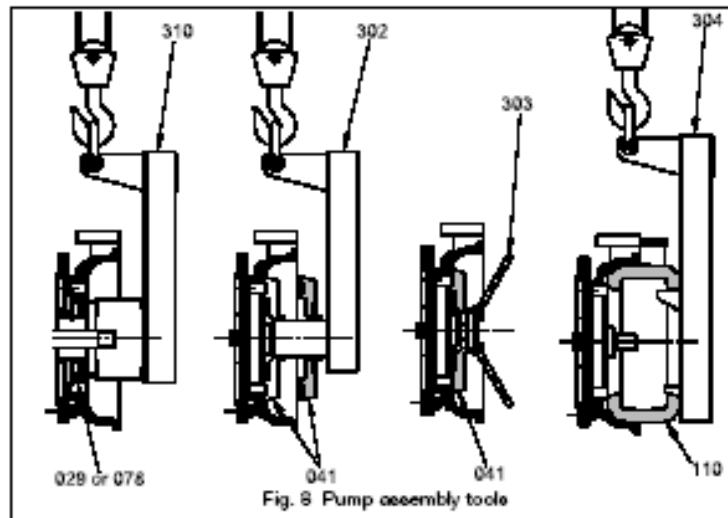

Figure 8-Wet End Assembly Tools
Refer Figs 8 and 9
- c. Restrain Shaft with wrench, and fit Locking Nut on Shaft thread, as shown in Fig 8. Move the Frame Plate Liner so that its inner diameter is approximately concentric with the tapered surface of the Locating Nut. Tighten all Studs on the Frame Plate Liner finger tight plus half a turn (max), and then remove the Locating Nut.
Refer to Figs 8 and 10
- b. Suspend a Lifting Tube - special tool which can be made on site or provided by ICS - from a hoist (refer Fig 8). Stand the Frame Plate Liner Insert on its edge, being careful not to damage the mating face, then slide the Lifting Tube into the bore of the Frame Plate Liner Insert. Lift the Tube with Insert attached, and slide the tube over shaft thread. Rotate the Frame Plate Liner Insert until the Studs line up with the holes in the Frame Plate, then slide the Frame Plate Liner Insert back until it butts up against the Frame Plate. Ensure that the Seal Ring and Volute Liner Seal have not been displaced. Fit nuts to Studs, and leave loose. Then slide Lifting Tube out.
- c. Ensure that Clamp Bolts on the right-hand side of the base looking from the wet end are sufficiently tight to hold Bearing Assembly horizontal, but not lock it. Restrain Shaft with Wrench, and fit Locating Nut on Shaft thread, as shown in Fig 8. The tapered face will locate the Frame Plate Liner Insert in its correct radial position. Fully tighten all Studs on Insert, and remove Locating Nut.